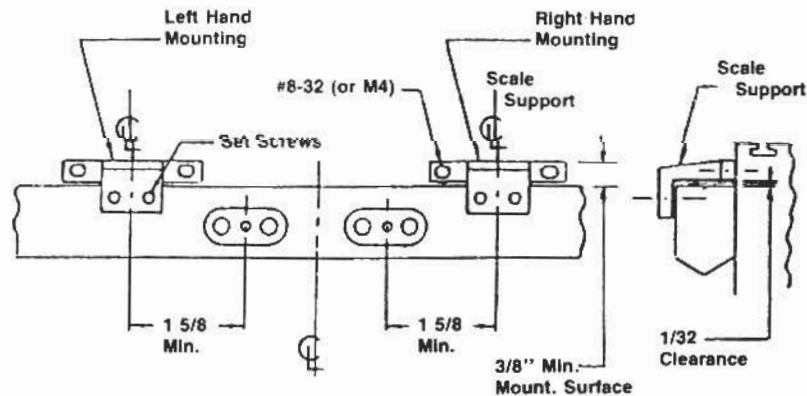

Figure 1-5. Center Support Mounting Options.
- a. Use a 1/32" shim (provided in hardware bag) to space the support above the scale. Make sure the support is far enough left or right of center so not to interfere with the scale cover plate (Figure 1-5). With the set screws removed, transfer the two mounting holes.